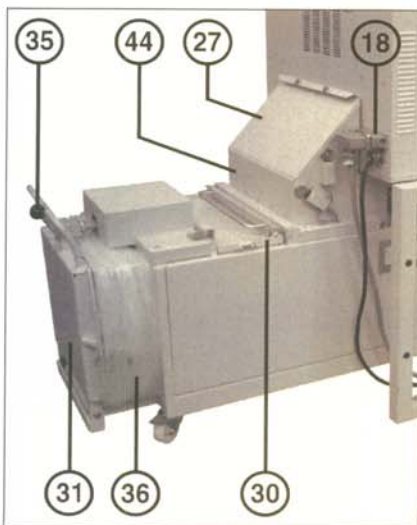

fig. 2
If the space in the hopper (44) (fig. 2) is completely filled with cutting material due to a jam in the filler hole of the baler, the machine switches off when the cover flap (27) is raised (fig. 2). The display (9) "Jam outlet" flashes.